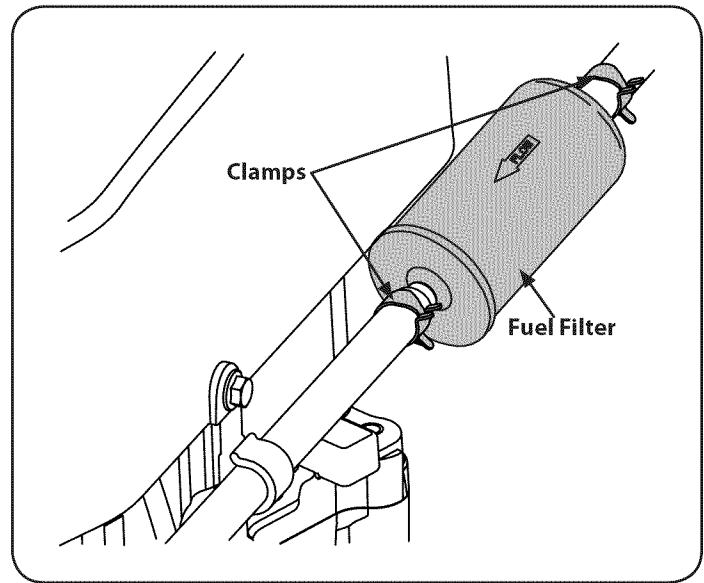

Figure 27
1. Locate the fuel filter, which is routed on the right side of the engine between the fuel tank and the engine. See Figure 27.